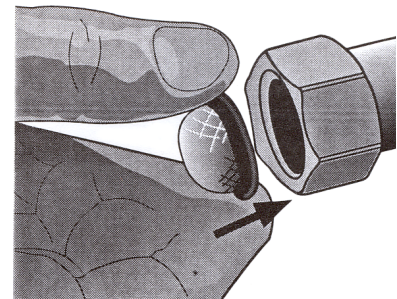

Fig. 2: Inlet Filter Screen
- d. Check the engine oil level using the dipstick (Fig. 2). Un-screw the dipstick, remove it and wipe it clean. Insert without screwing it in then pull it out to measure the level. Add 10W30 oil with an API rating SJ, SL Screw the dipstick back in.